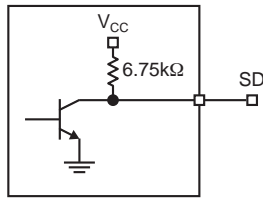

Figure 4. SD Output Structure
The SY88933V generates a chatter-free SD open-collector TTL output with internal 6.75kΩ pullup resistor as shown in Figure 4. SD is used to determine that the input amplitude is large enough to be considered a valid input. SD asserts high if the input amplitude rises above the threshold set by SD_{LVL} and deasserts low otherwise. SD can be fed back to the enable (EN) input to maintain output stability under a loss of signal condition. EN deasserts the true output signal without removing the input signals. Typically, 4.6dB SD hysteresis is provided to prevent chattering.